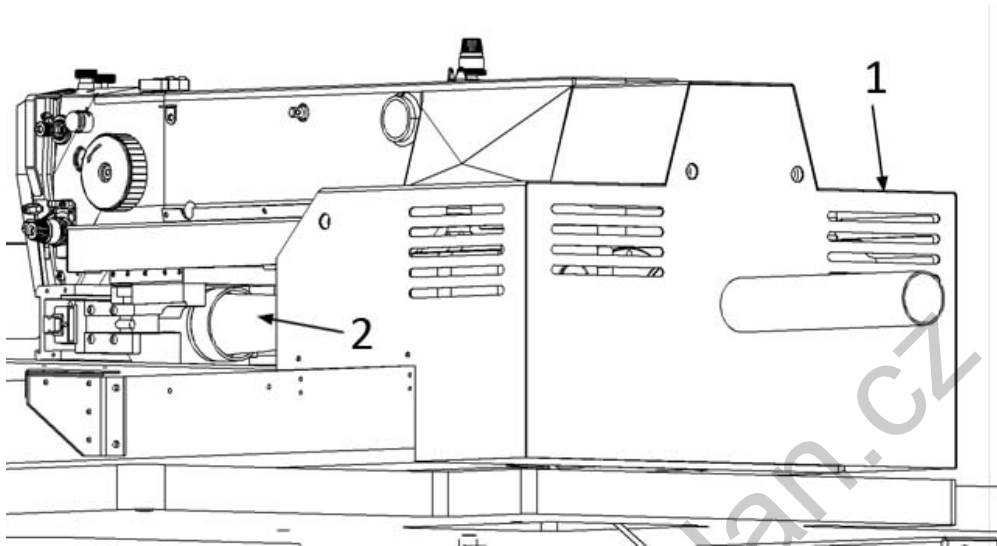
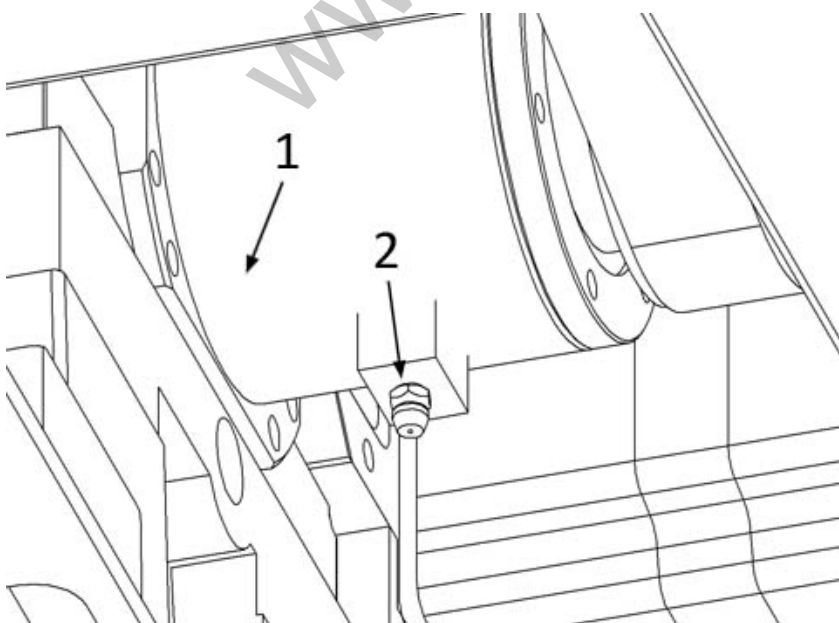

Fig.51
Fig.52
Unscrew the screws of the back cover (1) (two screws from back side and 3 screws on each side) and remove the cover (fig.51).
Now you have access to lubricating head (2) on the flange of the bearing (1), see fig. 52. Then apply the lubricant by means of manual press. Lubrication is recommended to be performed at least once per year according to frequency of machine operation. Besides the bearings, it is recommended to lubricate also the ball screw shaft under the telescopic cover (2), see fig. 51. Recommended lubricant is *Multipurpose Grease EP-2*.